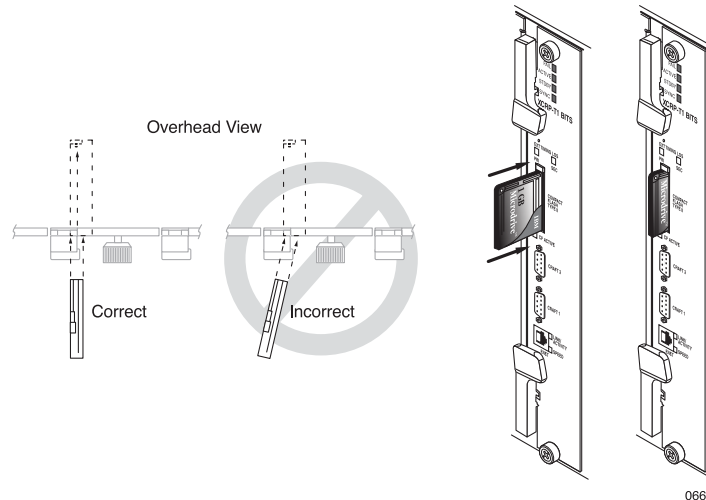

Figure 15 Installing an CF Card
3. Vertically align the device as close to the left edge of the slot as possible and perpendicular to it; see Figure 15.